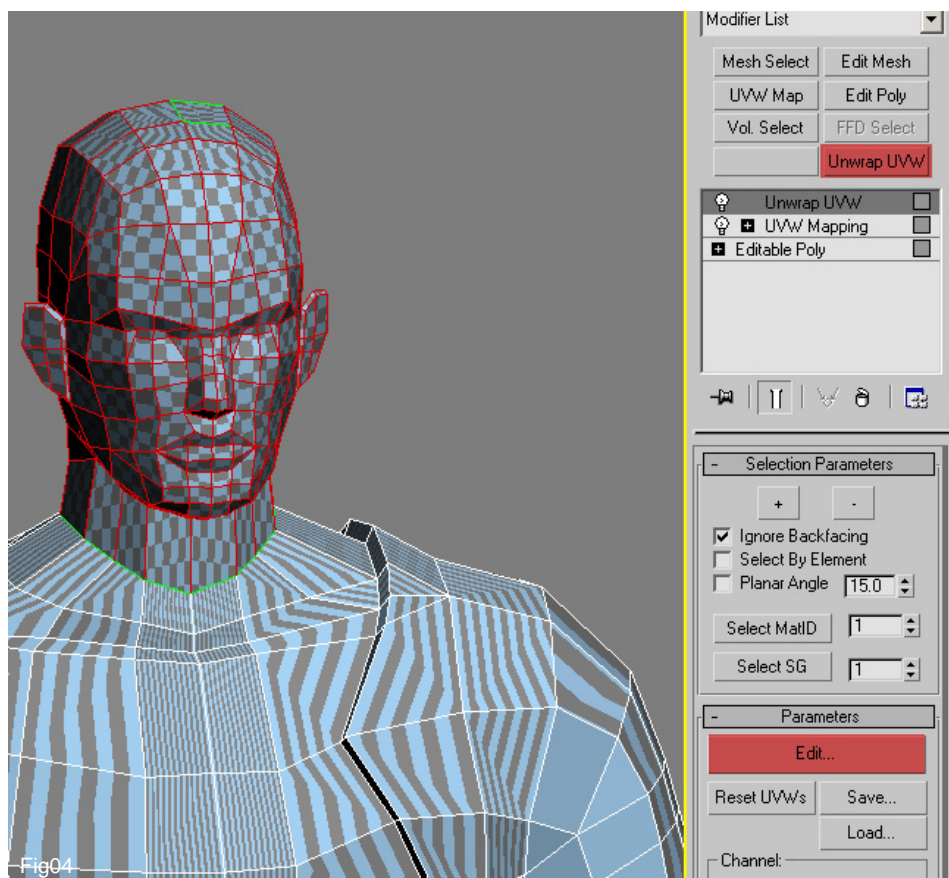

Fig04
4. The next stage in the process involves applying the Unwrap UVW modifier directly above the mapping with the poly's still selected. You can see the modifier in the stack on the top right in Fig 04 and the selected poly's highlighted on the left. This modifier enables us to manipulate the mapping co-ordinates and move UVW verts and faces that correspond to those on the mesh – in other words we can transform the mapping so that we get a true and proper checker map without any obvious distortion.